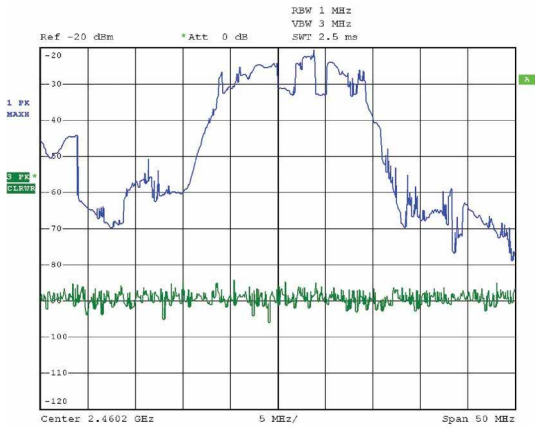
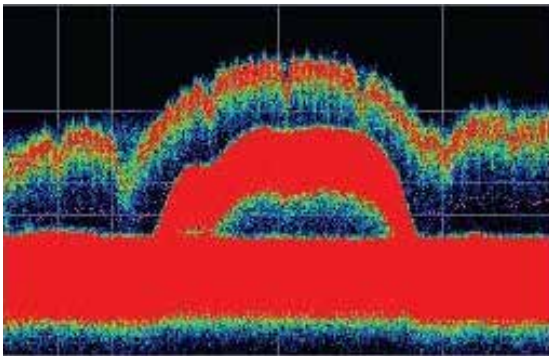

Figure 6: Display of a traditional swept spectrum analyzer
Figure 7: Real-time signal analyzer with a DPX display
Compare the Figure 6 on page 72 display of a traditional swept spectrum analyzer figure and that of a Figure 7 on page 72. The signal captured is a typical WLAN interchange between a nearby PC and a more-distant network access point (AP). The laptop signal is nearly 30 dB stronger than the AP's signal because it is closer to the measuring antenna.
The Figure 6 on page 72, uses line traces that can show only one level for each frequency point, representing the largest, the smallest or the average power. After many sweeps, the Max Hold trace shows a rough envelope of the stronger laptop signal. +Peak detection was selected for the other trace in an attempt to capture the weaker but more frequent AP signal, but the bursts are very brief, so the likelihood of seeing one in any particular sweep is small. It will also take a long time to statistically capture the entire spectrum of a bursted signal due to the architecture of the swept spectrum analysis.
The Figure 7 on page 72, reveals much more insight on the same signal. Since it is a bitmap image instead of a line trace, you can distinguish many different signals occurring within each update period and/or different version of the same signal varying over time. The heavy band running straight across the lower third of the graph is the noise background when neither the laptop nor the AP is transmitting. The red lump of energy in the middle is the ON shape of the AP signal. Finally, the more delicate spectrum above the others is the laptop transmissions. In the color scheme used for this demonstration (“Temperature”), the hot red color indicates a signal that is much more frequent than signals shown in cooler colors. The laptop signal, in yellow, green and blue, has higher amplitude but doesn't occur nearly as often as the AP transmissions because the laptop was downloading a file when this screen capture was taken.